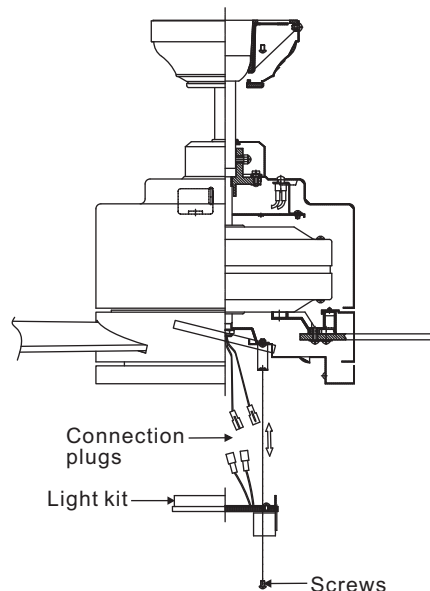

Figure 19
Step 2. Raise and hold the light kit close to the mounting plate and proceed to do the wire connections. Connect the white wire connectors from the light kit and fan, follow the same procedure with the black wire connectors. (Fig. 19)
Step 3. Tuck connections neatly into mounting plate, Place the light plate key holes over the 2 screws previously loosened from the mounting ring, turn light kit until it locks in place at the narrow section of the key holes. secure by tightening the 2 screws previously loosened and the one previously removed. (Fig. 19)